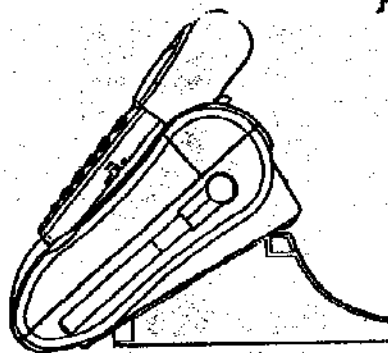

Figure 4
2. 30° Position (See figure 4)